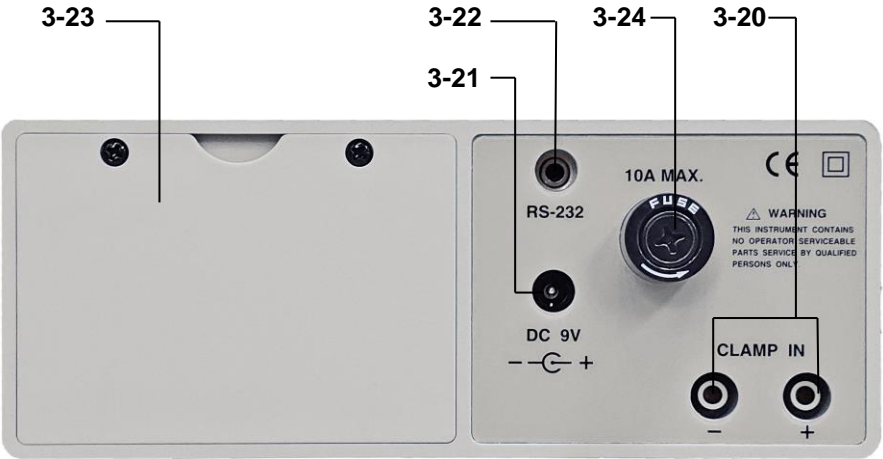

Fig.1
1. Push the "Power Switch" (3-2, Fig. 1) to "ON" position
2. Select the "AC/V/A/Watt-Switch" (3-3, Fig. 1)
3. Select the "Current In"-Switch (3-6, Fig. 1) to the "DIRECT"-position
4. Do not make any wire connection to the input terminals. If the watt display is not zero, push the "Whr-Zero Button" (3-8, Fig. 1) once, then watt display will show "0".
The "LCD Display" (3-1, Fig. 1) will show the Watt, Voltage, Current, PF (Power Factor) at the same time.
8. During the Watt measurement, push the "cos ϕ /PF/Hz Button" (3-9, Fig. 1) once, will show Line Frequency value instead of the PF value.
All the measuring procedures are same as the above "7.1-AC Watt/V/A/PF/Hz" measurement, except you should push the "Watt/VA/Whr Button" (3-7, Fig. 1) once, then the display will show the VA, voltage, current, Hz at the same time.
All the measuring procedures are same as the above "7.1-AC Watt/V/A/PF/Hz" measurement, except you should push the "Watt/VA/Whr Button" (3-7, Fig. 1) twice, then the display will show the Whr value along with the elapsed time.
- * The display of Whr measurement will stop (hold) when pushing the "Data Hold Button" (3-11, Fig. 1) once. Push the "Data Hold Button" once again for continuing the Whr function.
- * Press "Whr Zero" button (3 – 8, Fig.1) once will "reset (zero)" the Whr measuring value and make the new measurement again.
1. Push the "Power Switch" (3-2, Fig. 1) to "ON"-position.
2. Select the "AC V/A/Watt Switch" (3-3, Fig. 1).
3. Select the "Current In Select Switch" (3-6, Fig. 1) to the "DIRECT"-position.
- a) Connect red test lead to "V/Ohm Terminal" (3-17, Fig. 1) and black test lead to "COM Terminal" (3-18, Fig. 1)
- a) Connect red test lead to "Current (10 A) Terminal" (3-19, Fig 1) and black test lead to "COM Terminal" (3-18, Fig. 1)